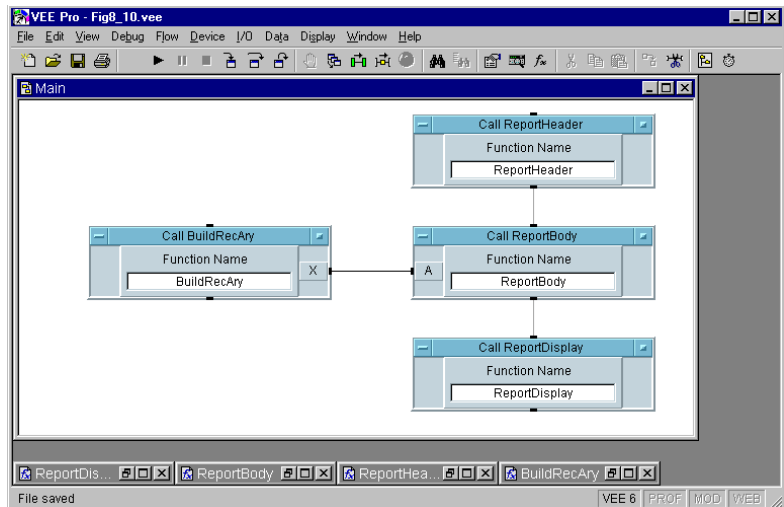

Figure 220 Report.vee from the Top Level
- b In Main, create four **Device** ⇒ **Call** objects configured and connected as shown in Figure 220. Save the program as **Report.vee**.